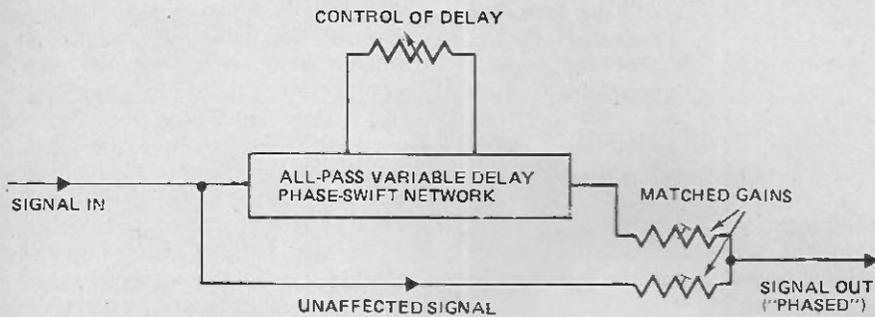

Fig. 8 Block diagram of electronic phasing system
- (a) Electronically (Fig. 8), a signal is fed to an all pass phase-shift network, the shift being governed by a single potentiometer. The output of the network is suitably attenuated to be combined at equal gain with the untreated signal.